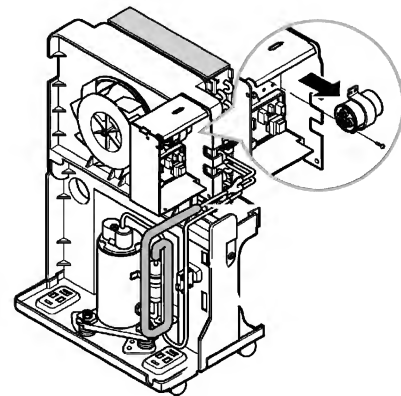

Figure 17
2. Remove the screw which fastens the PWB(PCB) ASSEMBLY, MAIN and pull it out after unhooking from 2 rectangular holes of the control box (lower). (See Figure 17)
1. Remove the screw that fastens the capacitor. (See Figure 17)